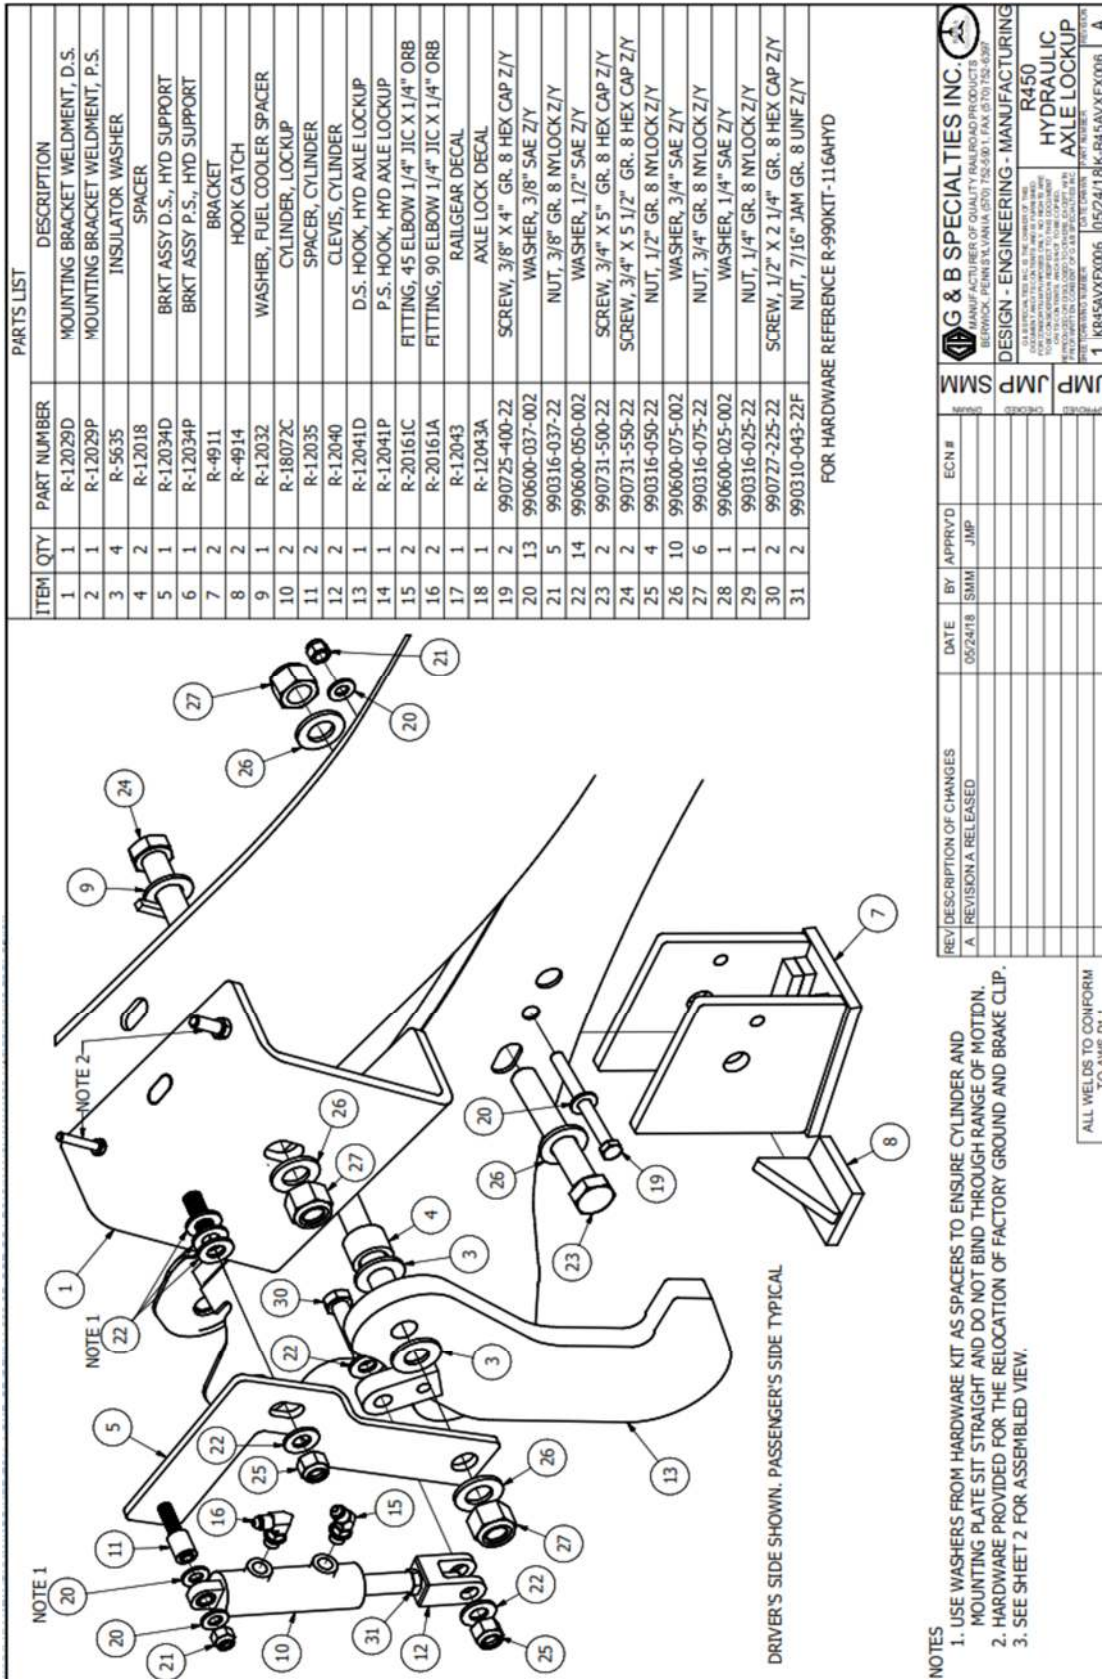

Figure 1
3. Find the slotted hole on top of the frame. Take bracket R-12029D (Driver's Side) and align the locating slug on the bracket with the slot in the frame. When done correctly, slug should drop into the slot on the frame and the bracket sit against the top and outer surfaces of the frame. See (Fig. 1).
4. With the bracket on the frame, center punch the slot on the bracket. Remove bracket and drill a 49/64" hole. Hole should line up with existing square hole where we removed the clip from earlier. Check with supplied 3/4" bolt to ensure bolt sits parallel and is not angled. Hole may need to be reamed to ensure this. The hole on the outside of the frame can also be obtained by drilling the square hole on the inside of the frame through to the outside. The bracket is slotted for this reason, just ensure bolt sits straight and not on an angle. Once hole is in place and bolt sits parallel, re-install fuel cooler leaving out the clip we removed. Install bracket to frame, using R-12032 and 3/4" hardware as shown in Fig. 1. See Fig. 7 for proper install reference. (Passenger side will need the hole drilled through to the inside of the frame. There are no holes present on the passenger side.)
5. On the radius arm you will see a slotted hole with a hole next to it. Take R-4911 and place it on the radius arm with the larger hole in the bracket aligned with the slot, positioned closest to the hole side of the slot. See (Fig.5) Place 3/4" bolt that was supplied through the bracket and radius arm to help hold the bracket, and with the bracket against the bottom of the radius arm, mark the center of the small hole of the bracket on frame. You may also mark the center of the hole on the inside of the frame. Drill a 13/32" hole through the radius arm, or on the inside and outside where marked. With hole drilled, install bracket using the 3/4" and 3/8" hardware supplied in kit. See (Fig.1) for reference. Ensure not to over-tighten bolts and deform the radius arm.
6. Assemble the hook, R-12041D, and bracket, R-12034D, onto the all thread and stud as shown in Fig. 1. If lateral adjustment is required supplied spacer can be trimmed down, or washers can be added into assembly to maintain proper clearance with frame, suspension arm, and hook. Nylock nut should be tightened enough to secure hook, but not hinder it from swinging. (R-12041P and R-12034P will be used on Passenger's Side)